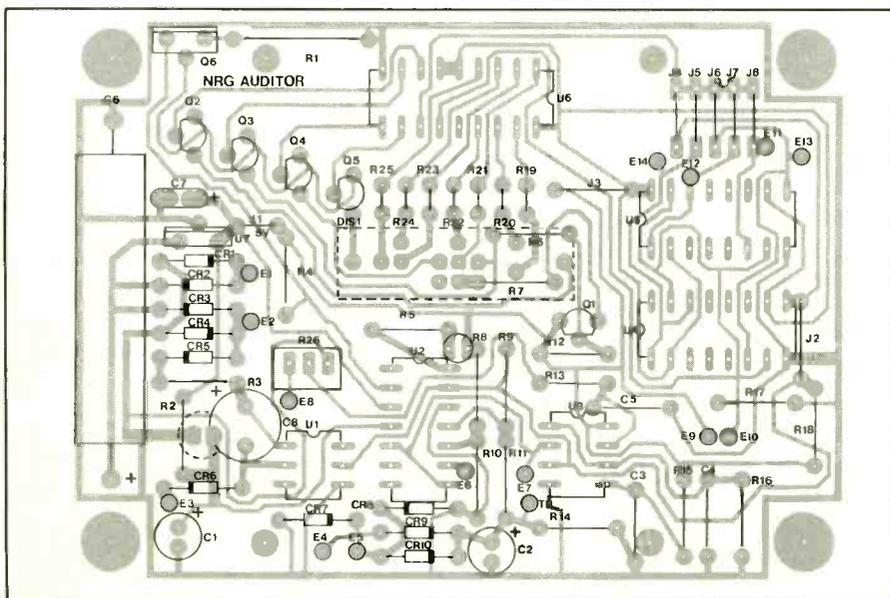
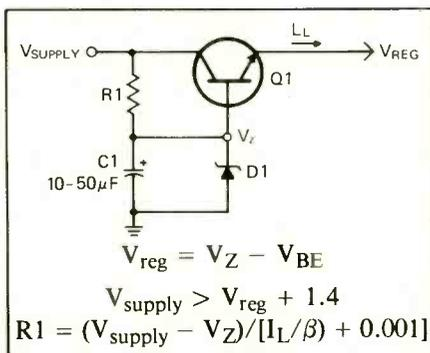

Fig. 3. The component location and orientation guide for the pc board.
Fig. 1. Simple series-pass regulator.
Operation from a wall thermostat allows the Energy Auditor to be powered by the latter's 24-volt ac control voltage. The screw terminal connections on the thermostat mounting plate are color-coded red (R) for return, white (W) for heat, yellow (Y) for cool and green (G) for fan. In Fig. 1, E2 connects to R and for air conditioning E1 goes to W and E3 goes to Y. For heat, the connections from E1 and E3 are reversed.
on which are wound 30 or so turns of insulated magnet wire. This transformer connects into the circuit at points E4 and E5 in Fig. 1. The distance between the Energy Auditor and sensing transformer is not critical; so the cable connecting the two can be as long as needed.
Wire the board exactly as shown in Fig. 3, referring back to Fig. 1 and the above text for details on interconnections between the board and off-board components. It is a good idea to use sockets for all ICs except IC7. Also, if you prefer, you can replace jumpers J4 through J8 with a 5-position DIP switch.
A voltage regulator can be built with a transistor, a zener diode, a resistor and a capacitor, as shown in Fig. 1. Using a 2N2222 transistor, total cost would be less than \$1.10. While this simple circuit does not provide the tight regulation required for some applications, it is adequate for many purposes and requires little voltage drop (about 1.4 volts, depending on the saturation point of the transistor).